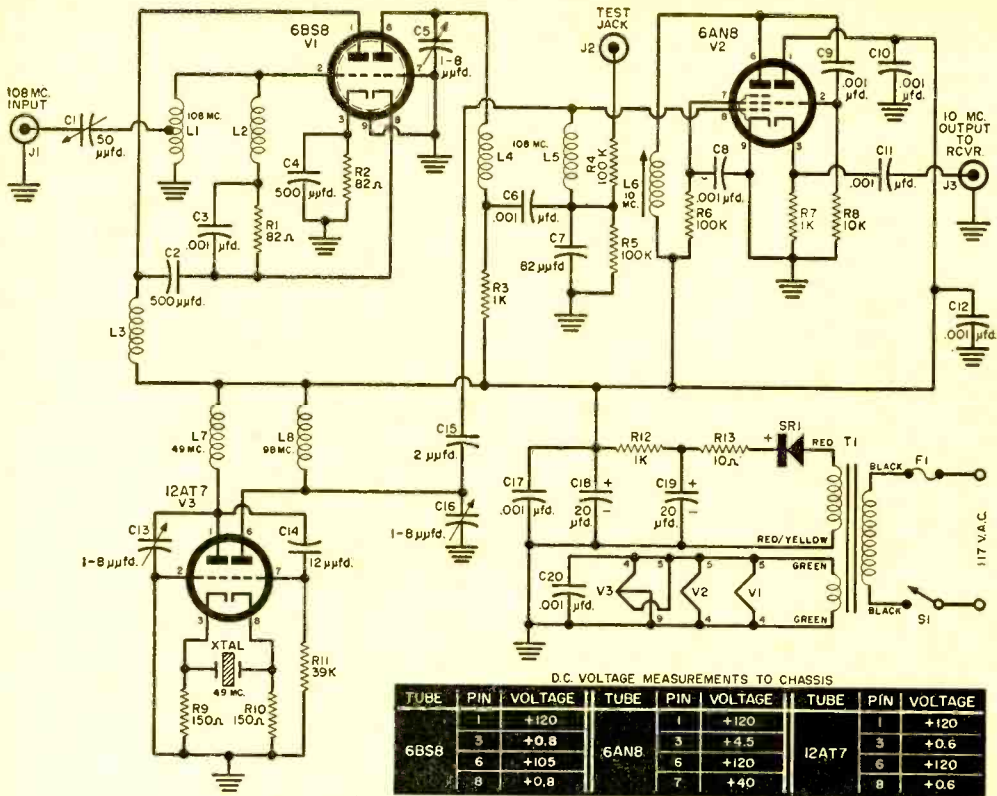
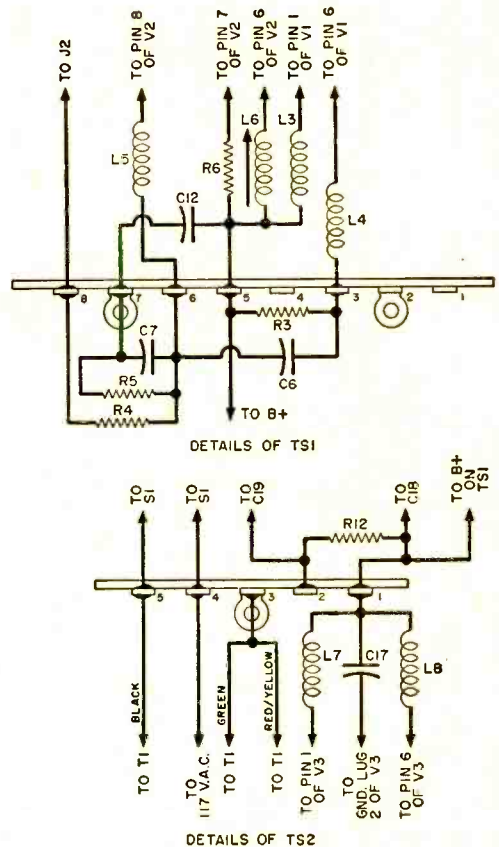

Fig. 3. Complete schematic of converter shows how dual tubes give six-tube performance.
Fig. 4. Wiring of components on the two terminal strips should follow this layout. Make sure lugs 2 and 7 of *TS1* and 3 of *TS2* are well grounded to chassis.
following instructions are given in a step-by-step sequence. The notation (NS) indicates that a connection should *not* be soldered, as other wires or components will be added shortly. The notation (S) indicates that a connection should be soldered before starting the next step. Mark each step off in the space provided when you have completed it, and always check your work against the schematic diagram (Fig. 3). A drawing of the terminal strips (TS1 and TS2) is shown in Fig. 4. Use a clean, hot iron, and beware of "rosin" joints!